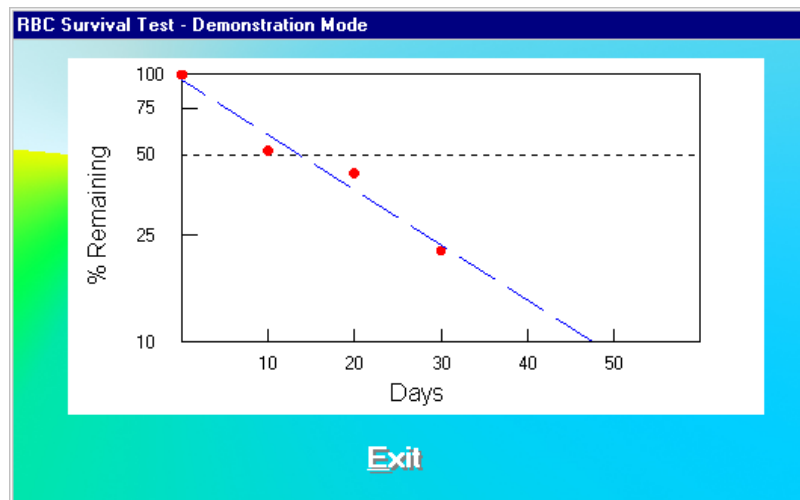

Figure 10-81
- To view a graph of percentage RBC Remaining vs. Days passed after the injection time, click the **Display Graph** button or press *ALT+G*. The screen appears as in Figure 10-81.